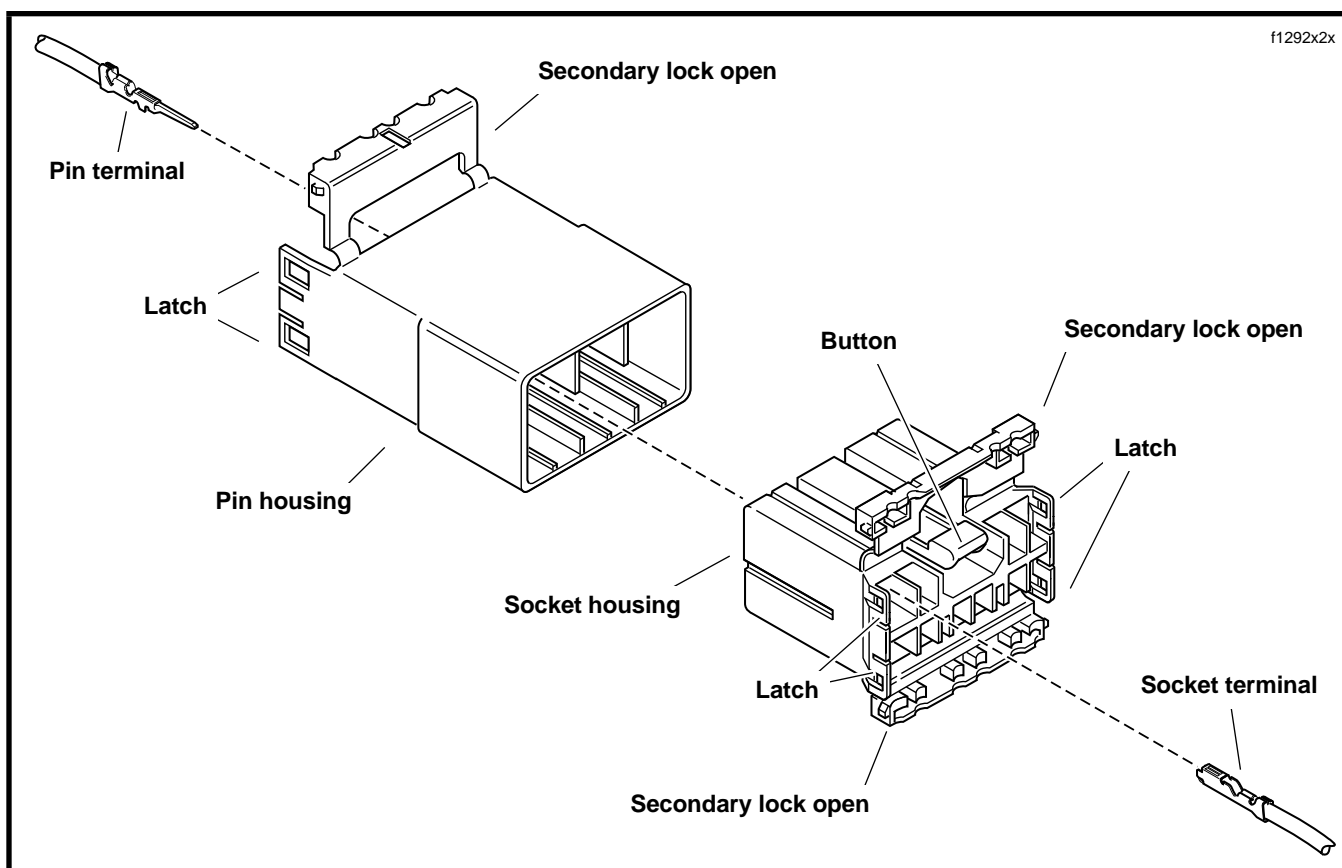

Figure 7-50. Amp Multilock Connector (Exploded View)
2. See Figure 7-50. Depress the button on the socket terminal side of the connector (plug) and pull apart the pin and socket halves.